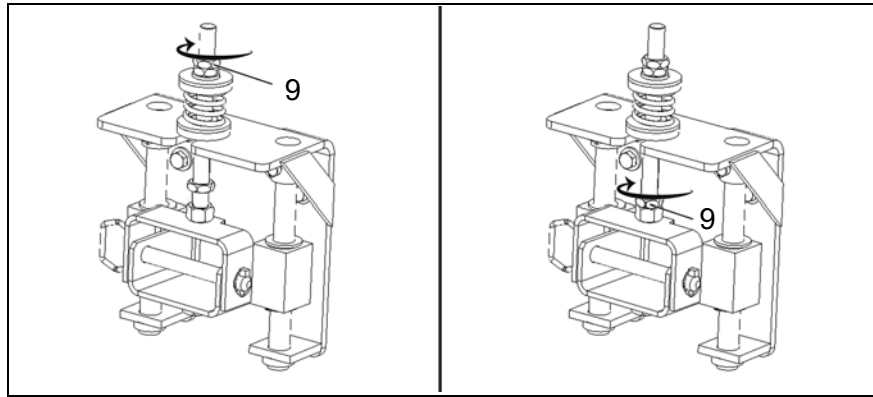

Fig. 11
19. Use the locknut (9, Fig. 11 left) to screw in the threaded rod.
20. Tighten the locknut (9, Fig. 11 right) and so secure the threaded rod.